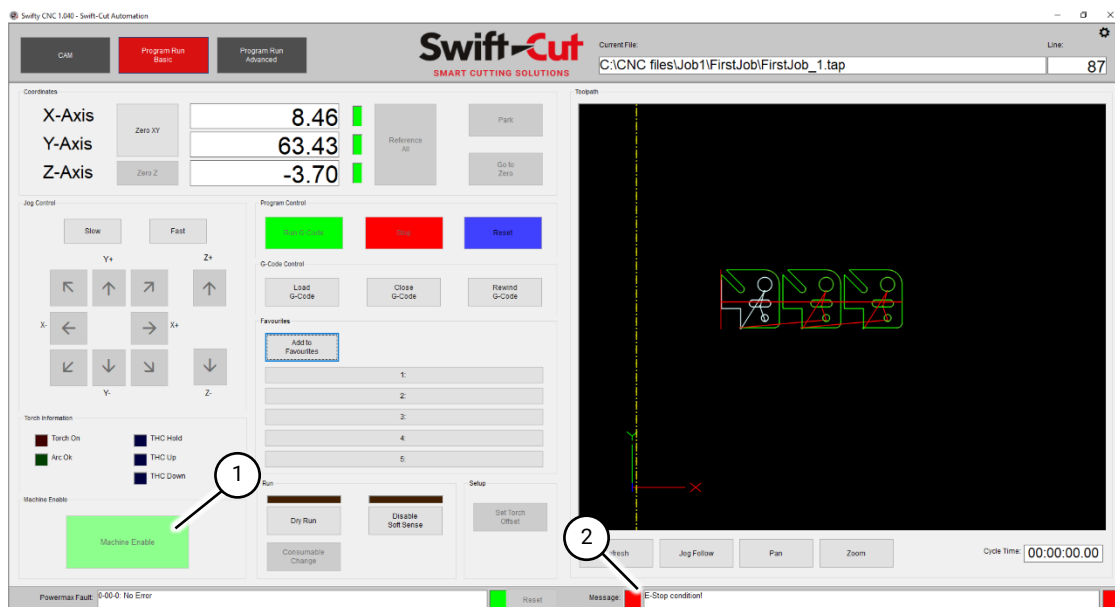

Fig 69 Emergency stop condition
- 1.2 Press the Machine Enable button (Fig 69 (1)) on either the Program Run Basic or Program Run Advanced screens. Fig 69 shows the Program Run Basic screen with an "E-Stop condition!" message in the Message field at the bottom of the screen (Fig 69 (2)).